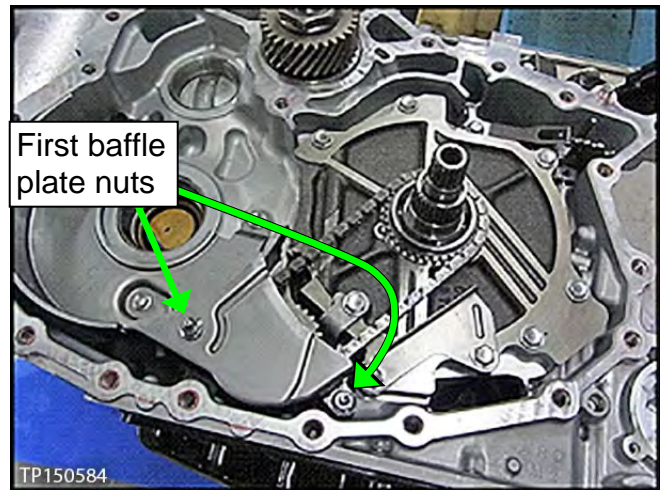

Figure 32
1. Remove the two (2) nuts, and then remove the first baffle plate (see Figure 32).